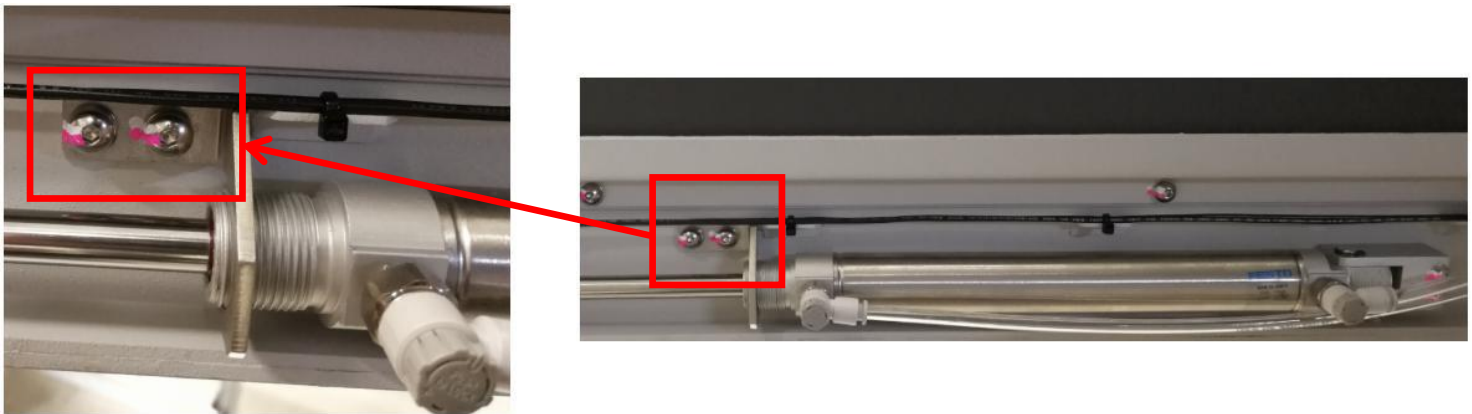

Figure 23
26. Assemble Front Cylinder Holder at outer barrier cylinder & tighten 2 x screws as Figure 23.